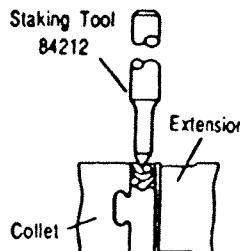
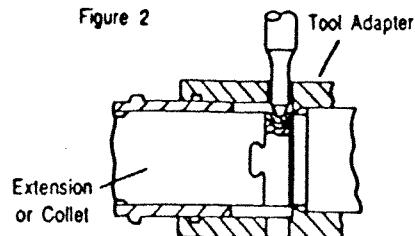

Figure 2
Figure 1
When using extension, stake to tool's spindle/rod before assembling collet -- see Fig. 1; use only one shim. Use wrench to snug-up extension on spindle. Assemble parts as shown -- apply thin coat SUPER O-LUBE to O-rings and O D of sleeve and VIBRATITE to extension W/O lock collar. Use collet wrench to snug-up collet.
6. Caution: To prevent damage -- after proper adjustment has been made, collet lock collar must be staked. As applicable, see Fig. 1 and/or Fig. 2. For nose assemblies with sleeve and O-rings, jaw tension on fastener pintail is changed by adding or removing O-ring(s). Use collet wrench to snug-up. Loose lock collars or too many shims (see step 4, 353) may cause holder/anvil damage -- too few shims may cause jaw damage. Reuse lock collars until ineffective.